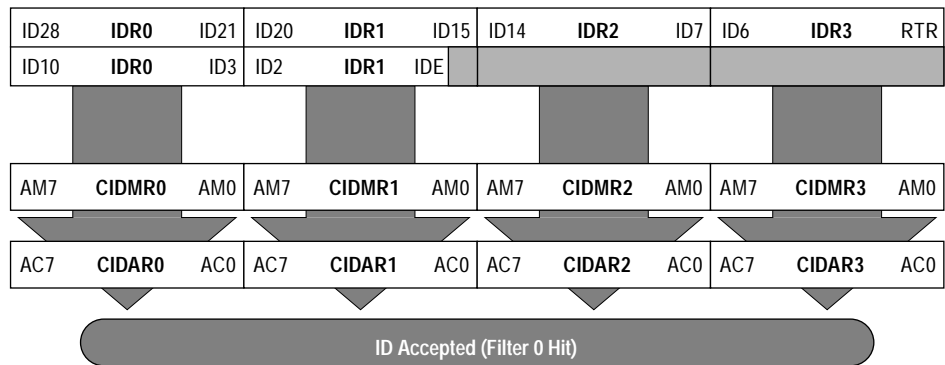

Figure 3. Single 32-Bit Maskable Identifier Acceptance Filter
- Single identifier acceptance filter, each to be applied to a) the full 29 bits of the extended identifier and to the following bits of the CAN frame: RTR, IDE, SRR or b) the 11 bits of the standard identifier plus the RTR and IDE bits of CAN 2.0A/B messages. This mode implements a single filter for a full length CAN 2.0B compliant extended identifier. **Figure 3** shows how the 32-bit filter bank (CIDAR0-3, CIDMR0-3) produces a filter 0 hit.